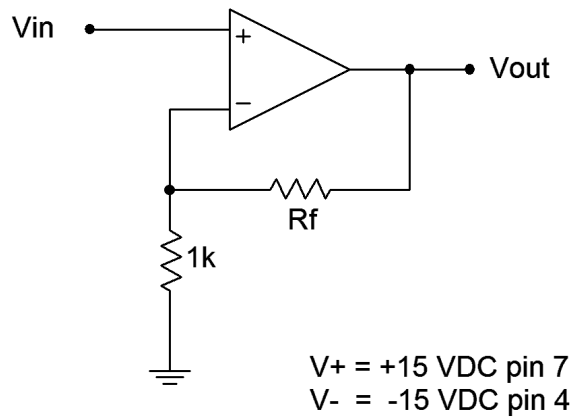

Figure 1
1. The voltage gain of the non-inverting amplifier can be determined accurately from the feedback resistors R_i and R_f . Calculate the voltage gains for the amplifier of Figure 1 for the R_f values specified, and record them in Table 1.
2. Assemble the circuit of Figure 1 using the $4k7\ \Omega$ resistor.
- Return to the amplifier of Figure 1 with R_f set to $10\text{k}\ \Omega$. If available, the LF351 is a good choice for the op amp in this portion. Replace the general purpose generator with the low distortion sine source set to 1 kHz . Adjust its output level so that the output of the op amp is approximately 0 dBV .